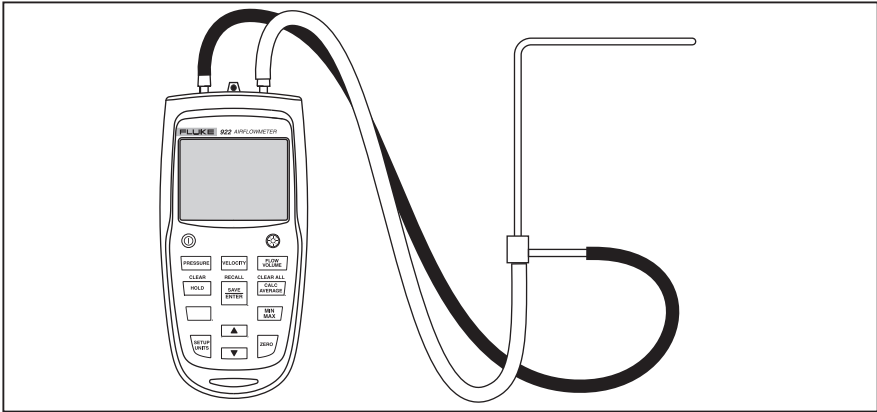

Figure 4. Pitot Tube Connection
2. Connect the hoses to the pitot tube and to the Meter. The **"Input (+)"** pressure port on the Meter connects to the yellow hose from the total pressure connection of the pitot tube. The **"Ref (-)"** pressure port on the Meter connects to the black hose from the static pressure connection of the pitot tube. See Figure 4.